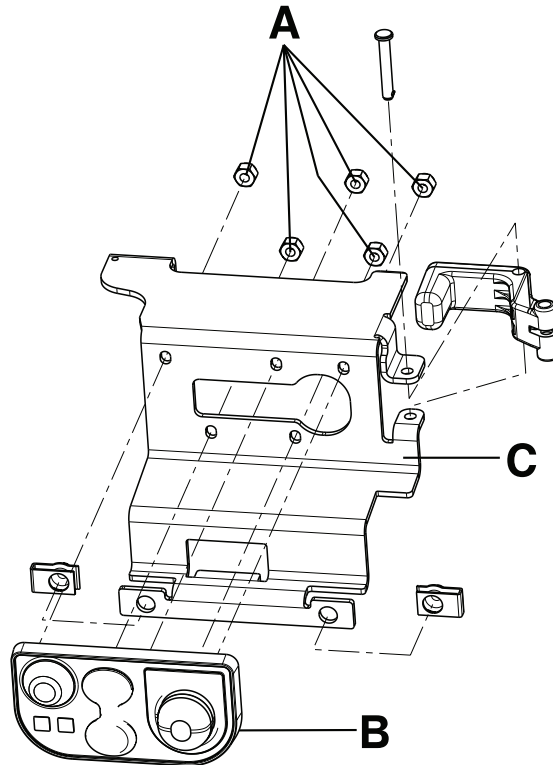

Figure 18 – Master On/Off switch and manual release button bracket assembly
2. Using an 1/32" nut driver, remove the five Fiberlock hex nuts (A) that secure the master On/Off switch (B) to the manual release button bracket (C). Discard the master On/Off switch (Figure 18).